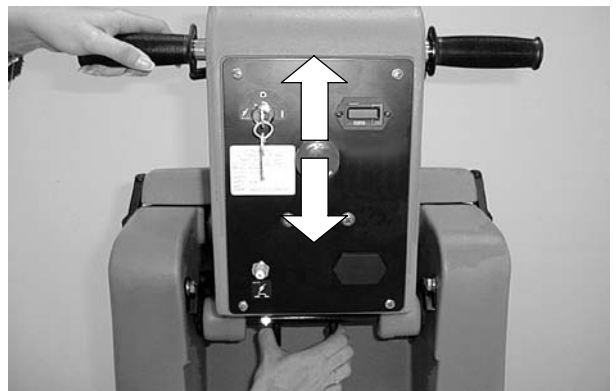

FIG. 9
- Locate the two spring loaded levers below the console (Figure 9).
- Squeeze the levers together and lift or lower control grips to a comfortable operating height (Figure 9).